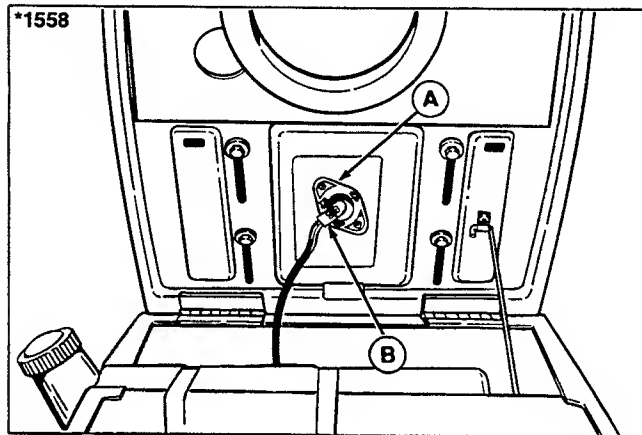

Figure 1A.
Check the seat switch (A, figure 1A) every fall and spring with the following three tests. Make sure the wiring harness (B) is securely plugged into the switch.